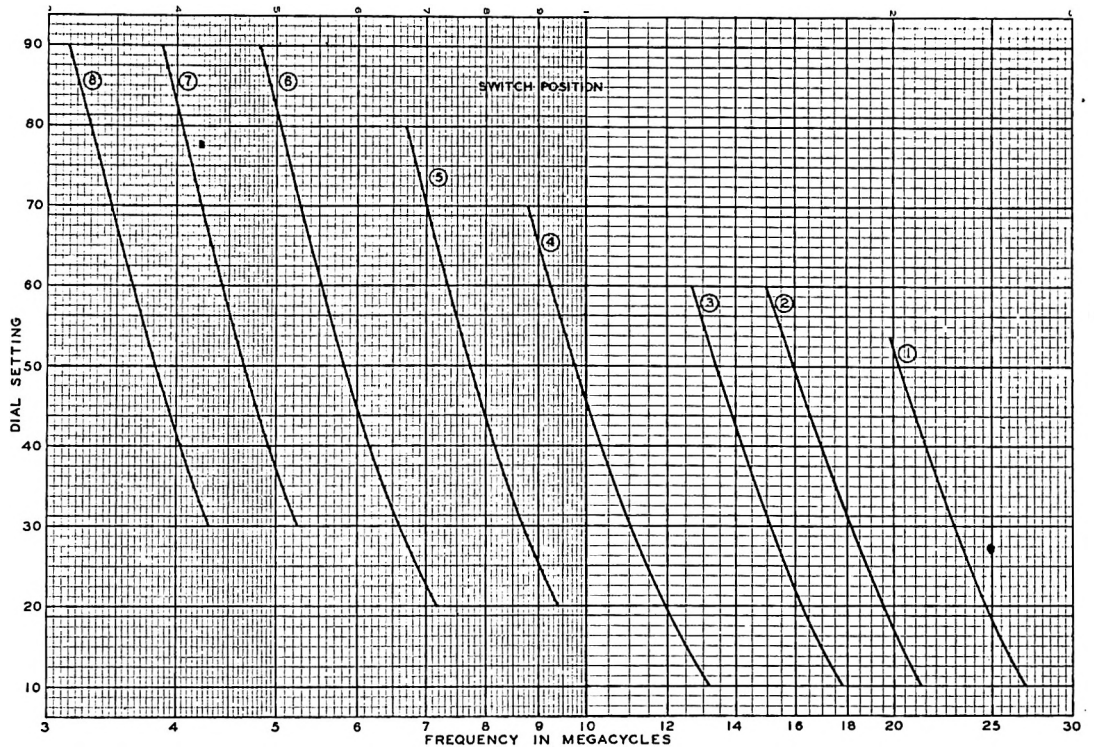

Figure 27A. Intermediate Amplifier Tuning Curve
4.6.3. Intermediate Amplifier Tuning. (See figure 27A.) The tank circuit mounted in the power amplifier unit combines the intermediate amplifier plate tank and power amplifier grid tank circuits.